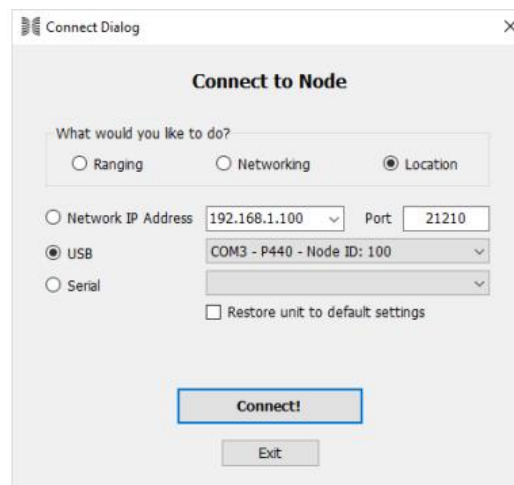

Figure 5 RangeNet Connection page
1. **Connecting via USB:** Connect the USB cable to the P4xx and the host computer. Click on the function you are interested in (for this setup, Ranging, Network, or Location). Click the USB button and select the COM port/unit serial number from the drop-down window. Refer to Figure 5 (RangeNet Connection page) for an example. If more than one P4xx is connected via USB to the host, select the unit of your choice from the drop-down menu. Note that it takes about 10 seconds for a P440 to boot, so if you power up a unit connected to the host, you will not see a COM port until the unit has booted and the driver has been identified.